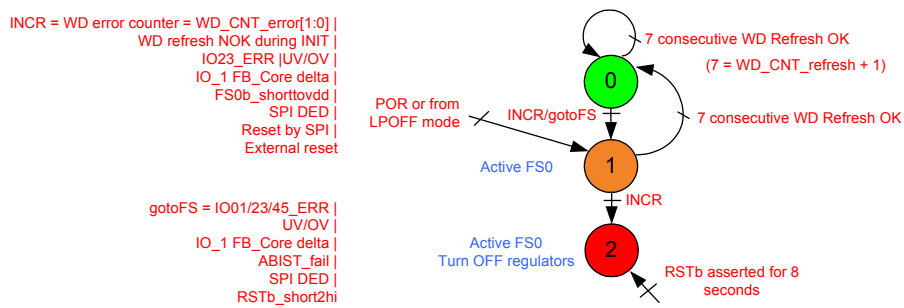

Figure 17. RSTB error counter(RSTB\_err\_FS = 1)
- RSTB\_err\_FS = 1 / Intermediate = 1; Final = 2 (Figure 17). When reset error counter reaches 2, the device goes into deep reset and fails.